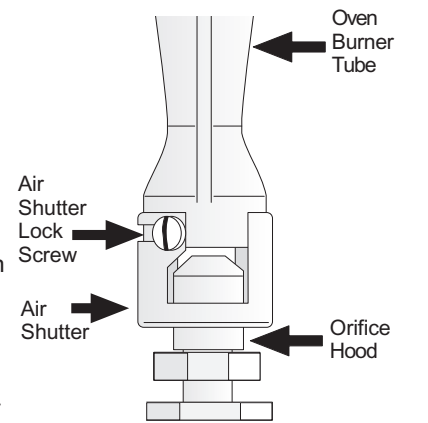

Fig. 8
3. Check air shutter adjustments on oven burner (See Fig. 8).